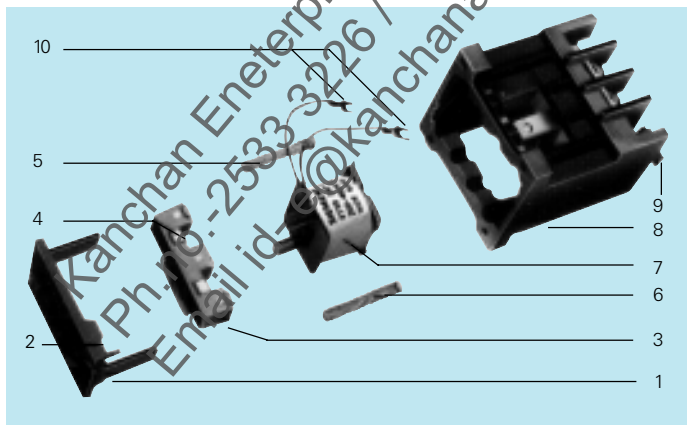

Fig. 12 Replacement of Coil
- **Replacement of Coil:** (fig. 12)